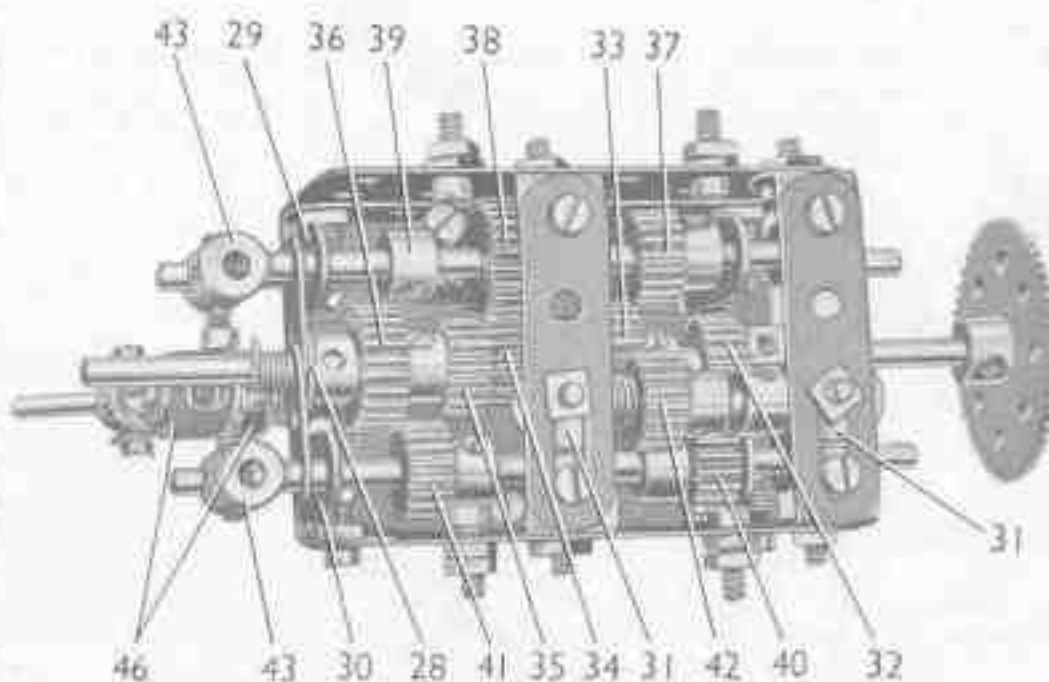

FIG. 7 A close-up of the 3-speed and reverse gear-box
### Assembling the Gear-Box (Fig. 7)
A  $3" \times 1\frac{1}{2}"$  Flat Plate is attached to each Angle Girder. The bolts that connect the Flat Girders secure also a  $1" \times 1"$  Angle Bracket (28) (Fig. 7), and a similar part at the opposite end of the frame. A  $1" \times \frac{1}{2}"$  Angle Bracket is also fixed to the centre of the Flat Girders, with a Fishplate bolted to it, so that the *round* hole in the Fishplate covers the *slotted* hole in the Angle Bracket.
The gear selector shafts are  $\frac{1}{2}"$  Rods mounted above the layshafts, and each of them carries a Collar fitted with a  $\frac{1}{2}"$  Bolt. The Bolt on the selector shaft for 2nd and 3rd gears engages between the Pinion (38) and the Collar (39). The Bolt on the 1st and reverse gear shaft is located between the Pinion (41) and the Collar. Fishplates are passed over the output shaft and the ends of the layshafts as seen in Fig. 7. A Coupling (43) is fixed to each selector shaft